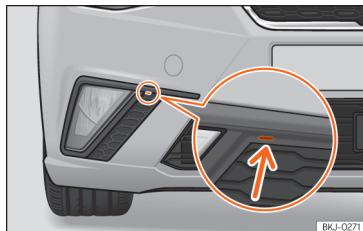

Fig. 164 Fog light: remove the grille
- Lever the groove with a screwdriver >>> Fig. 164 (arrow). Next, remove the clips located on the edge of the grill, levering them gently.